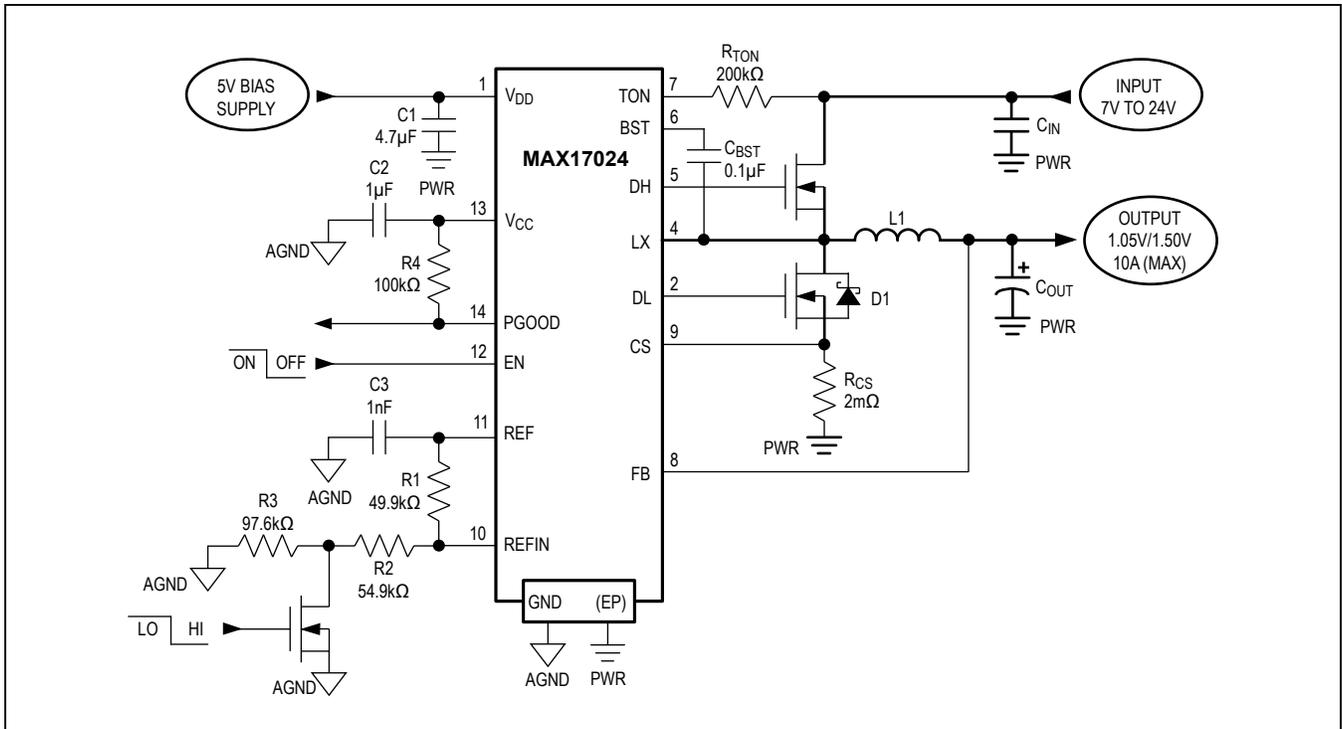

Figure 1. MAX17024 Standard Application Circuit
(Circuit of Figure 1,  $V_{IN} = 12V$ ,  $V_{DD} = V_{CC} = V_{EN} = 5V$ ,  $REFIN = REF$ .  $T_A = -40^{\circ}C$  to  $+85^{\circ}C$ , unless otherwise specified.) (Note 1)
**Electrical Characteristics (continued)**(Circuit of Figure 1, VIN = 12V, VDD = VCC = VEN = 5V, REFIN = REF. TA = -40°C to +85°C, unless otherwise specified.) (Note 1)
(MAX17024 Circuit of Figure 1,  $V_{IN} = 12V$ ,  $V_{DD} = 5V$ ,  $R_{TON} = 200k\Omega$ ,  $T_A = +25^\circ C$ , unless otherwise noted.)
The MAX17024 standard application circuit (Figure 1) generates a 1.5V or 1.05V output rail for general-purpose use in a notebook computer. Table 1 lists the component manufacturers.
The MAX17024 regulates FB to the voltage set at REFIN. By changing the voltage at REFIN (Figure 1), the MAX17024 can be used in applications that require dynamic output-voltage changes between two set points. For a step-voltage change at REFIN, the rate of change of the output voltage is limited either by the internal 9.45mV/μs slew-rate circuit or by the component selection—inductor current ramp, the total output capacitance, the current limit, and the load during the transition—whichever is slower. The total output capacitance determines how much current is needed to change the output voltage, while the inductor limits the current ramp rate. Additional load current may slow down the output voltage change during a positive REFIN voltage change, and may speed up the output voltage change during a negative REFIN voltage change.